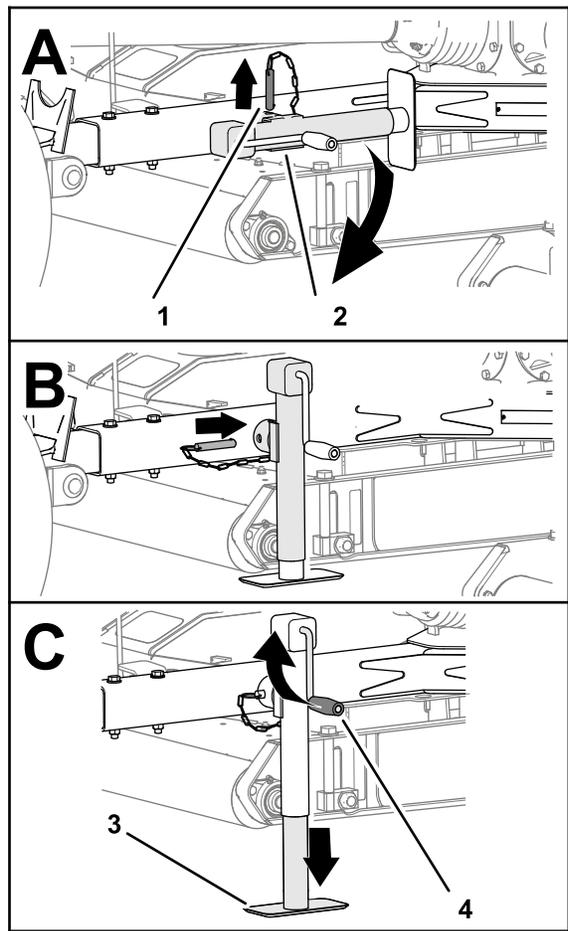

Figure 23
3. Remove the pin and rotate the tow-bar jack vertical (Figure 23).
4. Align the hole in the tow bar with the hole in the jack (Figure 23).
5. Insert the pin through the holes in the tow bar and jack (Figure 23).
2. Rotate the jack handle to fully raise the jack pad; refer to Figure 23 in Using the Tow Bar Jack (page 16).